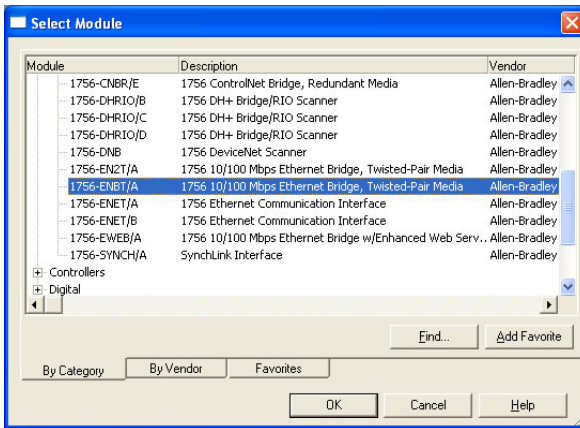

Figure 83: Adding a New 1756-ENBT/A Module
- 5) Under “Communications”, select “1756-ENBT/A”, and click OK. Refer to Figure 83.